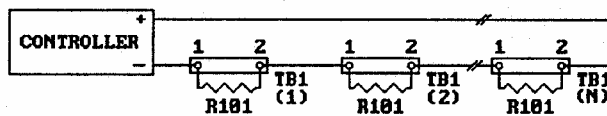

Figure 3-7. Controlling Several 1Zs Connected in Series
- Connect each unit as shown in Figure 3-7.